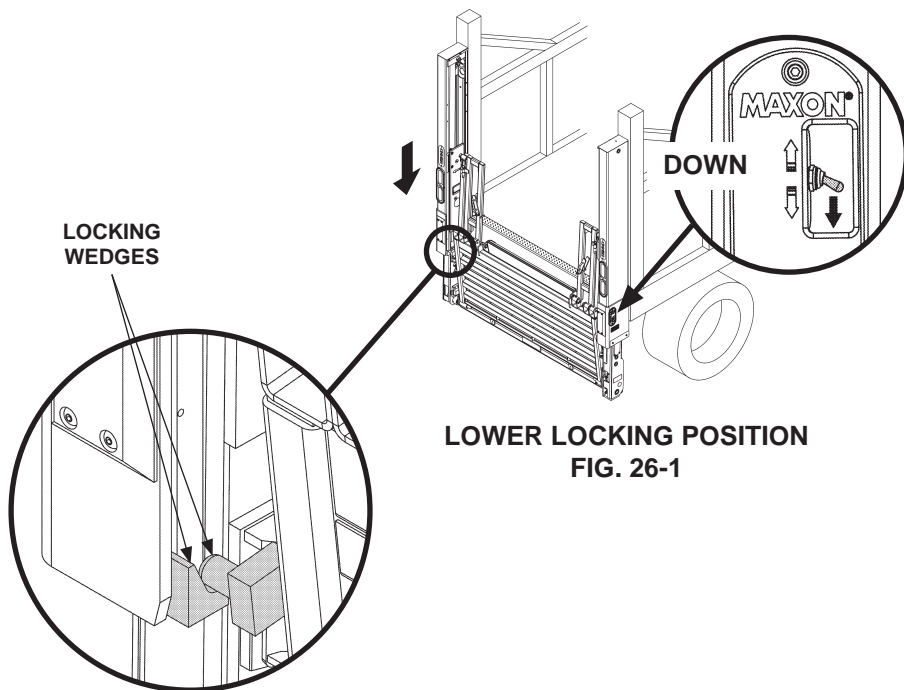

FIG. 26-1A
1. Use column switch to lower (**DOWN**) platform to lower locking position (**FIGS. 26-1 & 26-1A**). Release switch when top edge of closed platform is below bed height and resting on lower locking wedges (**FIG. 26-1A**).